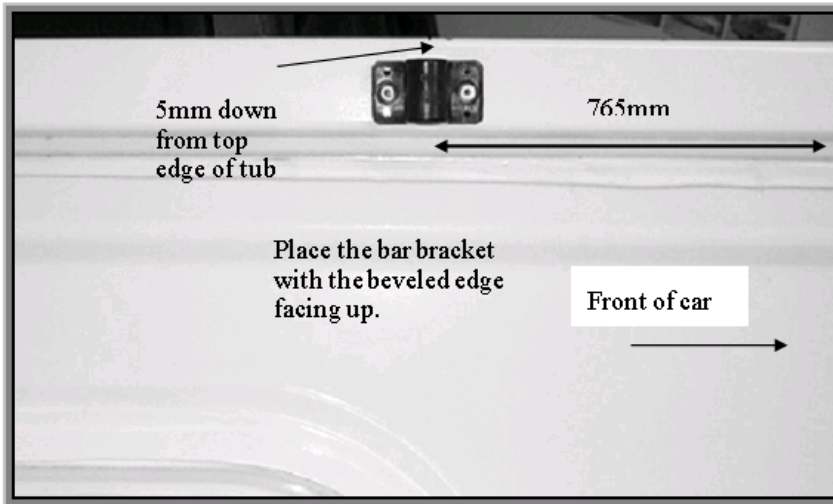

Figure 2: Placement of bar bracket
6. To fit the bar brackets, measure 765mm back from the inside front edge at the top of the tub and place them as shown in Figure 2. (5mm down from top edge of tub) Drill and rivet using two large rivets for each Bar Bracket. Install the support bar according to the supplied instructions.